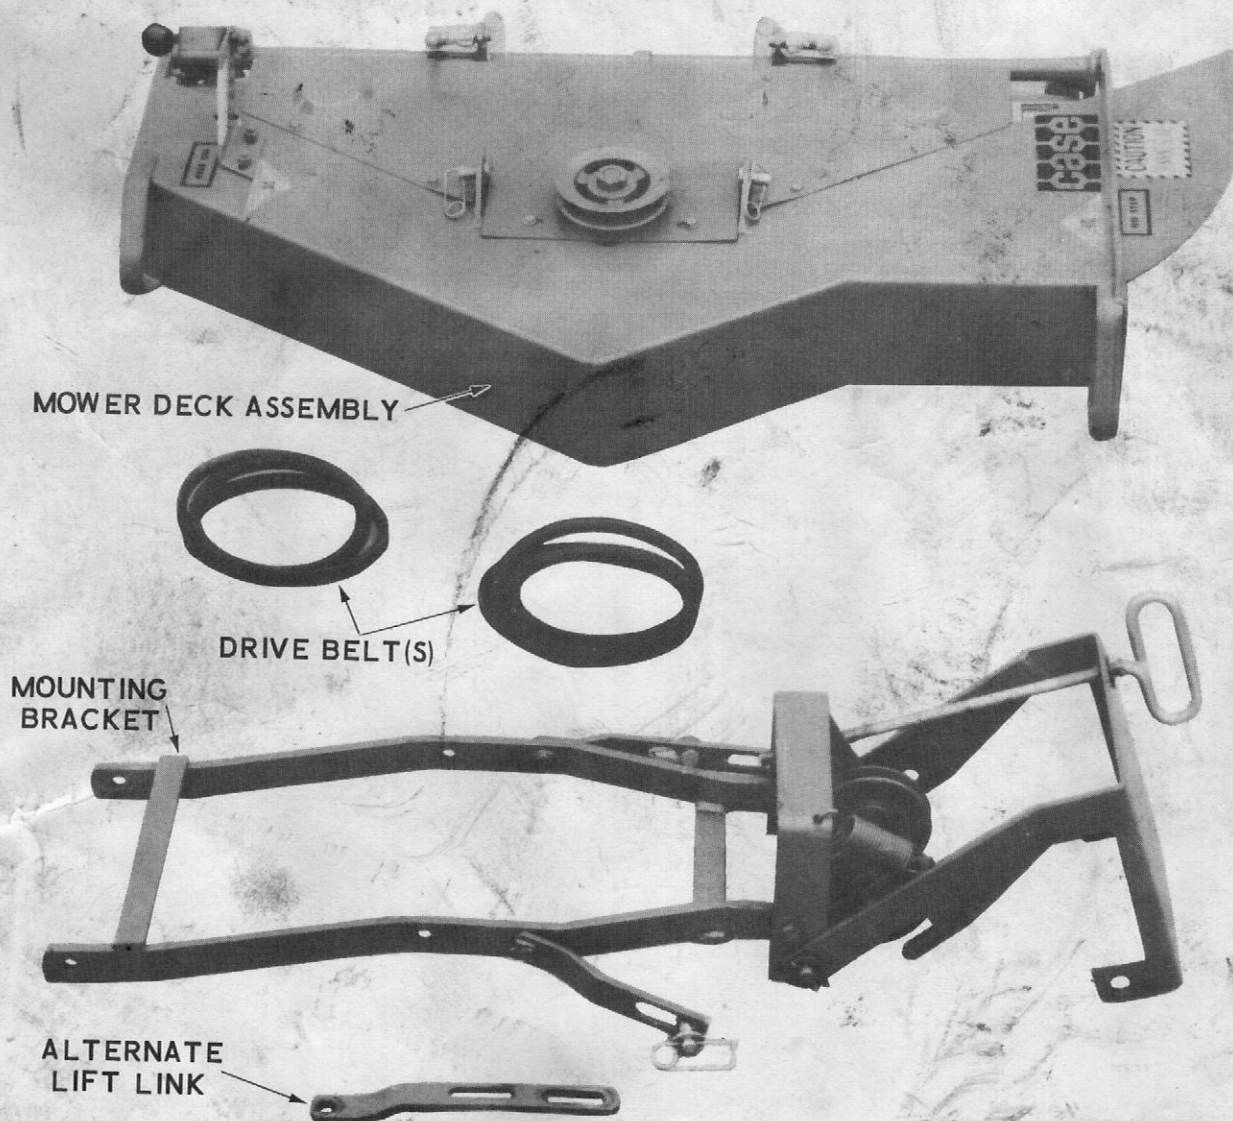

Figure 13.
- B. Before installing the mower, lay out and check the individual components. The Model H44 or H46, 44" or 48" mower is illustrated in Figure 13 and includes an extra drive belt and lift link to permit their installation on either high or low clearance tractors without separate mounting kits. Since the Model H40, 38" mower is only intended for the Model 220 or 222 tractors, it does not include the extra belt or link.